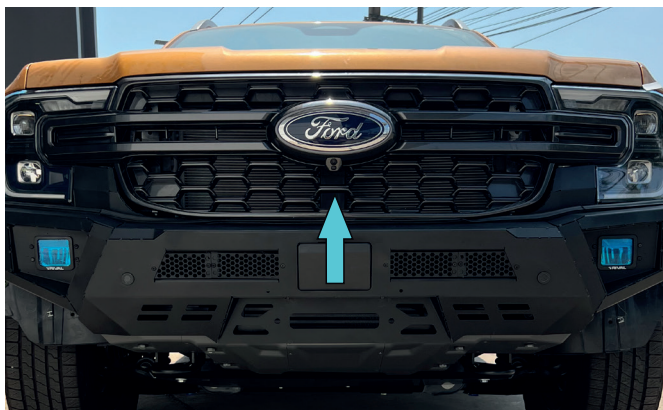

Fig.65
64. Install OE grille (fig.65).